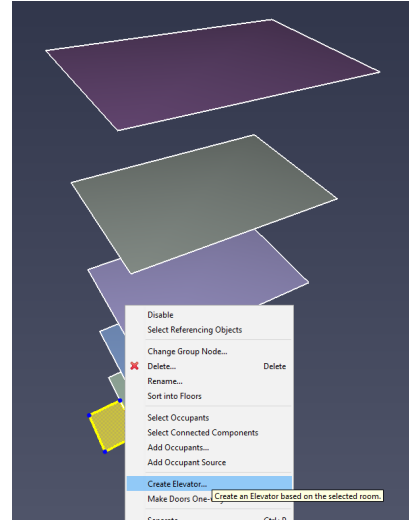
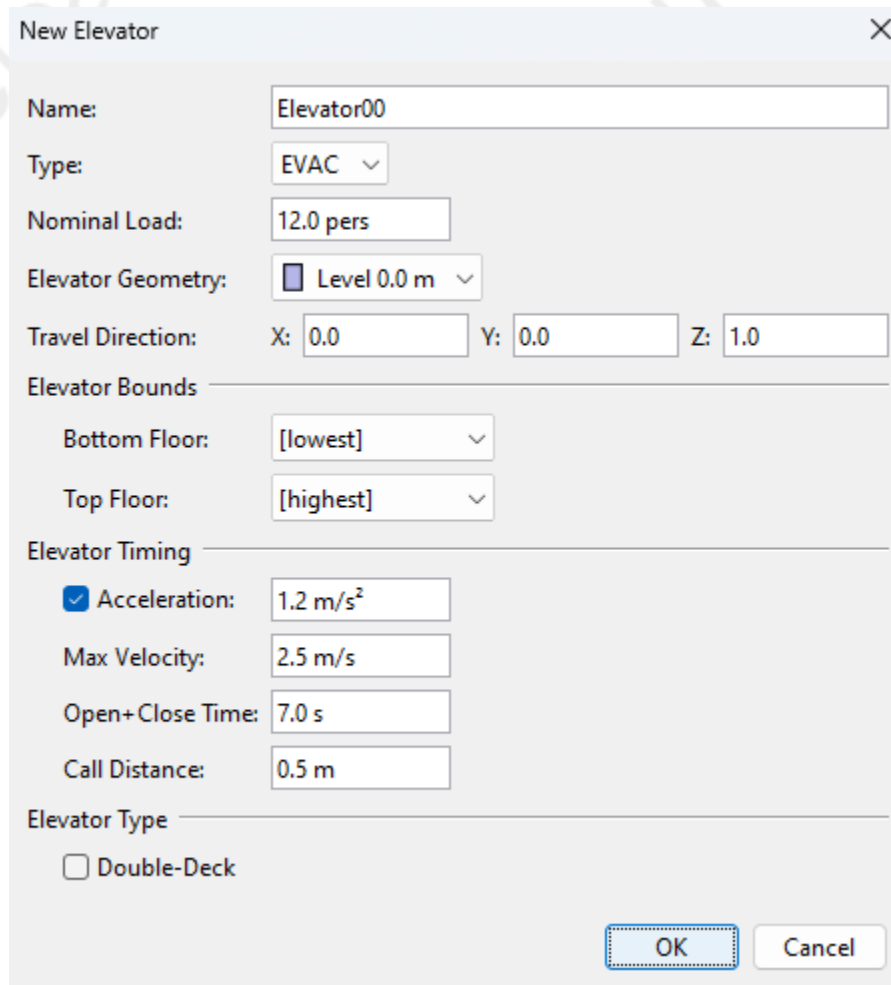

Figure 69. Select Create Elevator in right-click menu
Figure 70. New Elevator dialog
3. Right-click the base room, and from the right-click menu, select **Create Elevator**, see Figure 69. This will show the **New Elevator** dialog as shown in Figure 70.